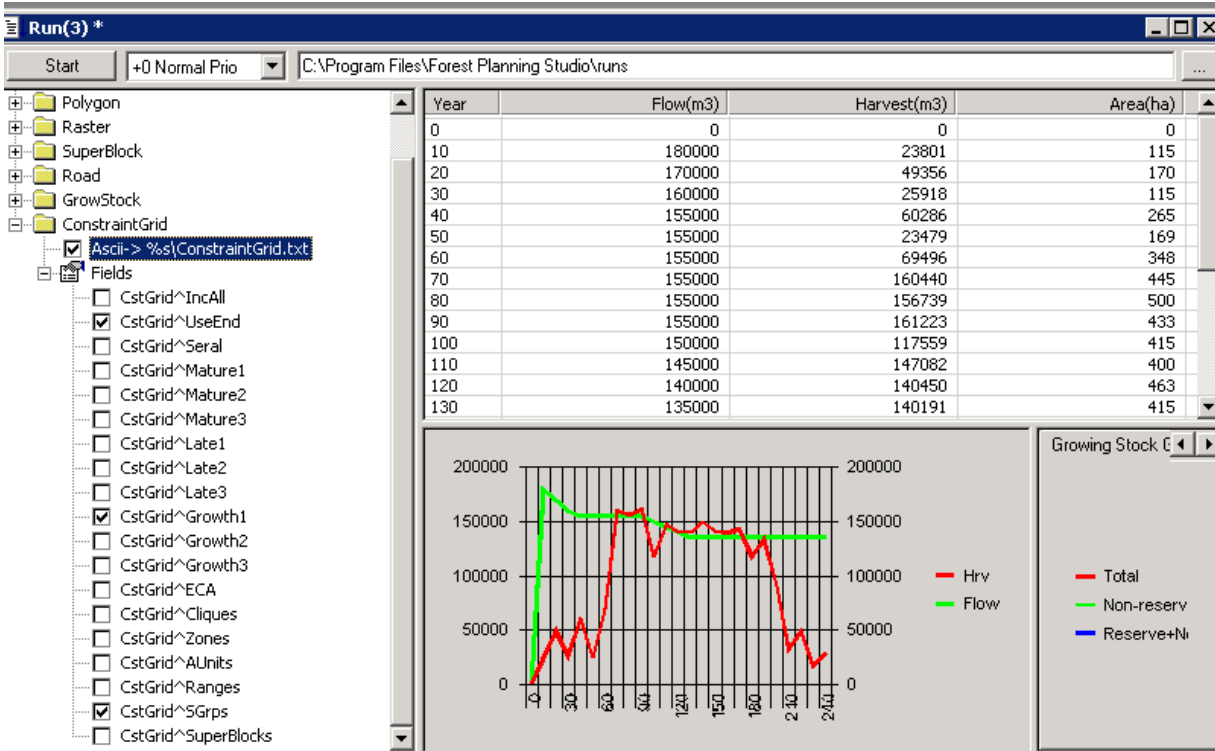

Figure 44: Producing text files showing the constraints applied on to different stand groups.
- 7.4.2 When the *Run* window is open, expand the tree structure under *Constraint Grid* and check the boxes as shown in figure 44.